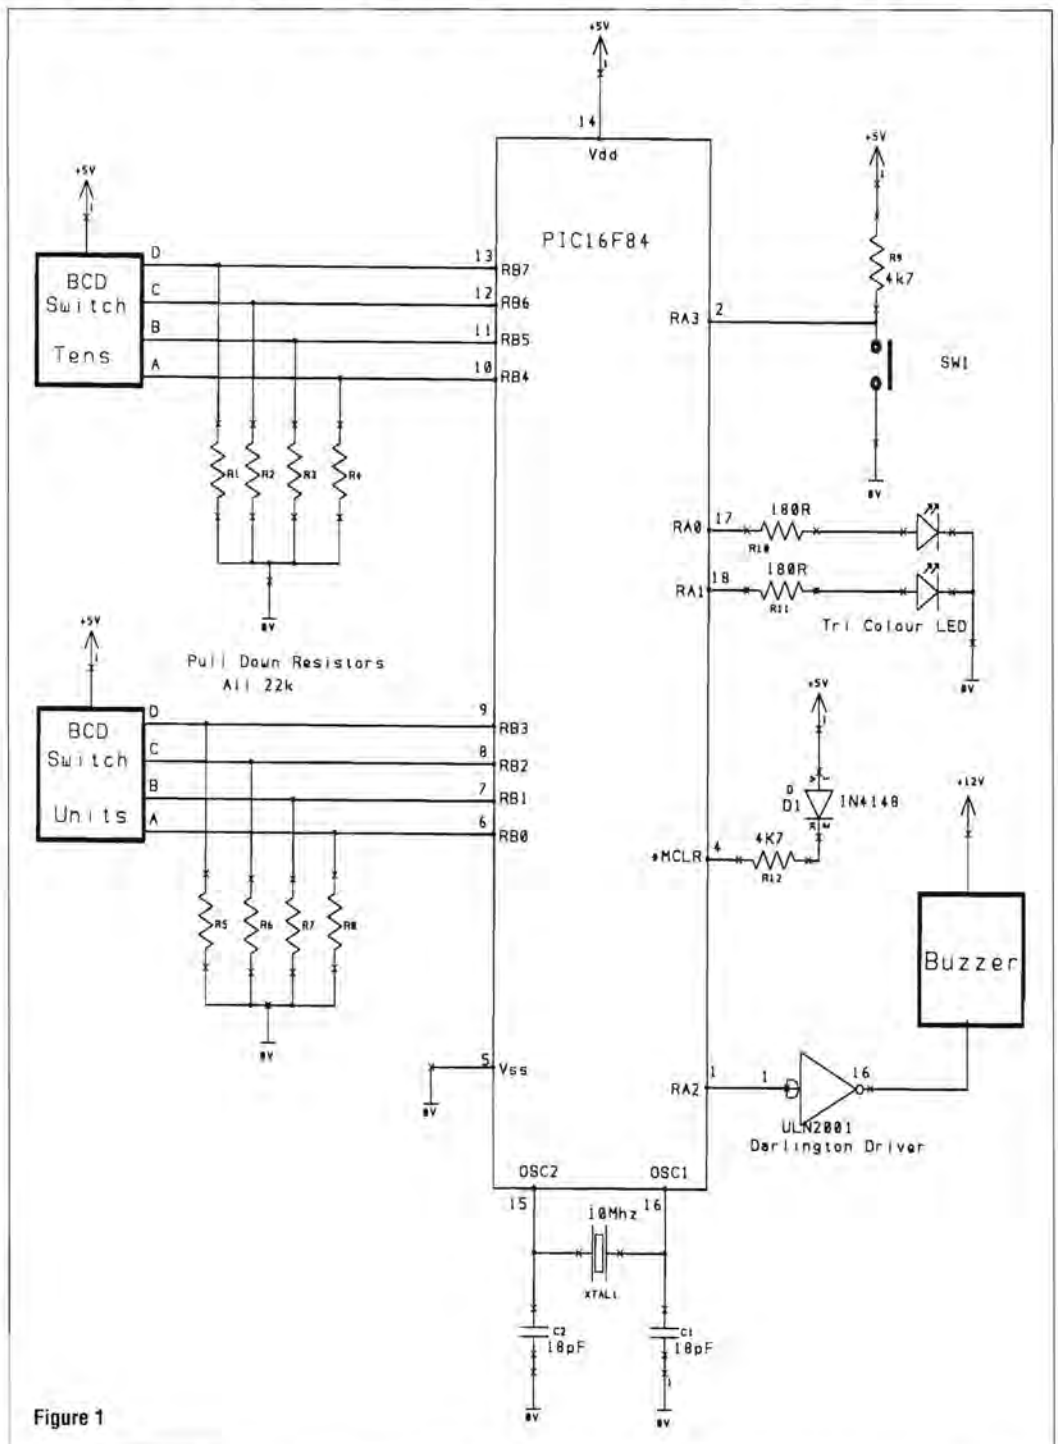

Figure 1
Several light adaptations to H. Bonekamp's Ionisation Circuit, (printed in *Elektor Electronics*, March 1998, p. 46-49), as seen in Figure 1, make the original circuit fit for
As can be seen from **Figure 1**, user input to the PIC 16F84 is achieved using a pair of Binary Coded Decimal (BCD) switches. A Darlington driver IC was used to drive the buzzer and a tricolour LED used to indicate the 'Stopped' and 'Running' states. The master clear (*MCLR) signal is pulled 'high' through diode D1 and resistor R12, to ensure proper power on reset. (1) Testing was initiated by depressing push-button switch SW1.